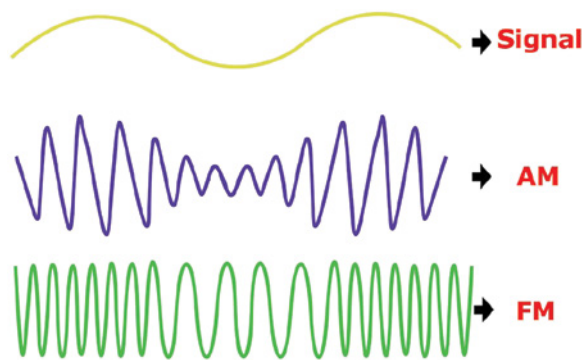

Figure 15-2: AM and FM modulation of an analog signal
The answer to this question depends on the *modulation* being used by the transmitter and receiver. As long as you use the same modulation technology on the sending and receiving ends, you don't have to worry too much about the details of how the modulation works. At a high level, modulation is the process of encoding data into a *carrier wave* (an electromagnetic wave at the frequency that you are transmitting). You are probably already familiar with two kinds of analog modulation: AM and FM radio. *Amplitude modulation* (AM) and *frequency modulation* (FM) encode analog data, like your favorite song on the radio, by changing (or modulating) the amplitude or frequency of the carrier wave, as shown in Figure 15-2. On the receiving end, the original audio signal can be extracted from this wave by recovering the original signal from the changes in amplitude or frequency.